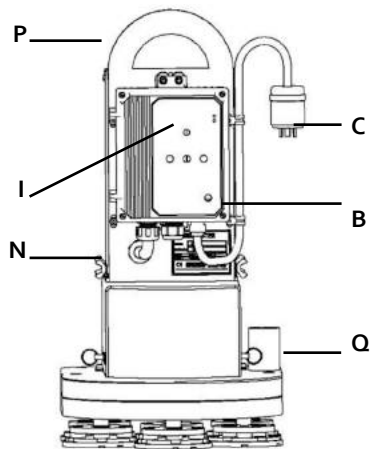
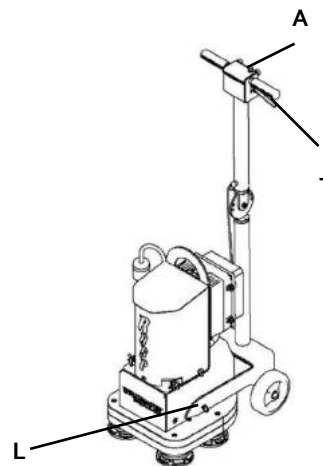
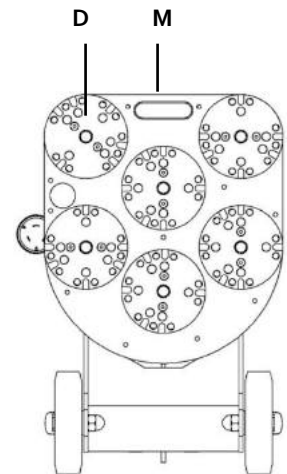

Fig 1
Fig 2
Fig 3
Machine Controls The START button (A Fig 2) is on the handle; the SPEED control (B Fig 1) is on the VFD.
1. Unplug the power cord from the twist lock plug (C Fig 1).
2. Ensure the handle is in its full upright position (Fig 2). Tilt the machine back (Fig 3).
5. Return the machine to the upright position (Fig 2).
Initial Start Sequence When the machine is first plugged in, a start-up screen (I Fig 1) will flash STOP.
Starting the Machine To start the machine, gently squeeze the activation lever (J Fig 5) and press and release the START button (A Fig 2).
Adjusting the Speed The speed of the machine can be adjusted when it is running or when it is stopped. To adjust the speed, rotate the speed control knob (B Fig 1) on the VFD clockwise to speed it up, or counterclockwise to slow it down. Always start the machine at the lowest speed and adjust as necessary.
3. Remove the pull pins from each handle arm (L Fig 2) and roll the handle assembly away from the machine.
4. Remove the four thumbscrews (N Fig 1) from the motor mounting assembly.
5. Use the handle (P Fig 1) on the motor mounting assembly to lift the motor mounting assembly straight up until the motor shaft is completely clear of the base.
1. Disconnect power and ensure the handle is in the upright position (Fig 2).
2. Tilt the machine back (Fig 3).